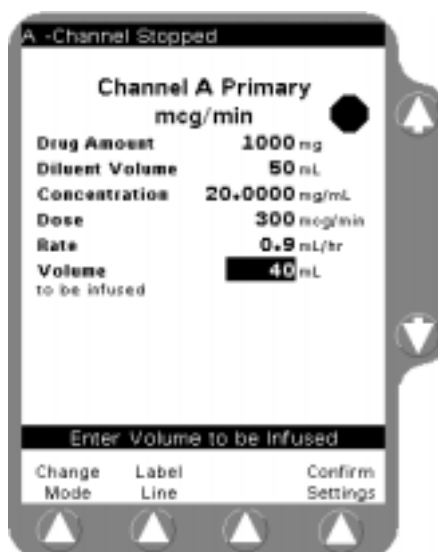

Figure 5-13 Enter Volume to be Infused
10. Use the  $\downarrow$  key to highlight the Volume to be Infused field (Figure 5-13).